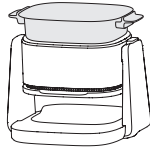
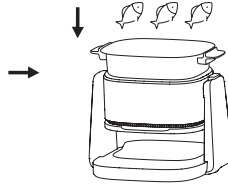

Fig 17
Fig 18
- ① Adjust the machine to grilling status and assemble grill pan(Fig17)
- ② Press“” button in quick start function area, display screen shows 200°C、20min.
- ③ Put oil into grill pan, press“” button to start preheating, display screen starts to show remaining time.
- ④ After 3 minutes, put fish into pan to grill (Fig 18), flip the fish in suitable time.
- ⑤ When the product makes five beep sound, the cooking is completed and the display area shows "End". Carefully remove the grill and take out the ingredients.